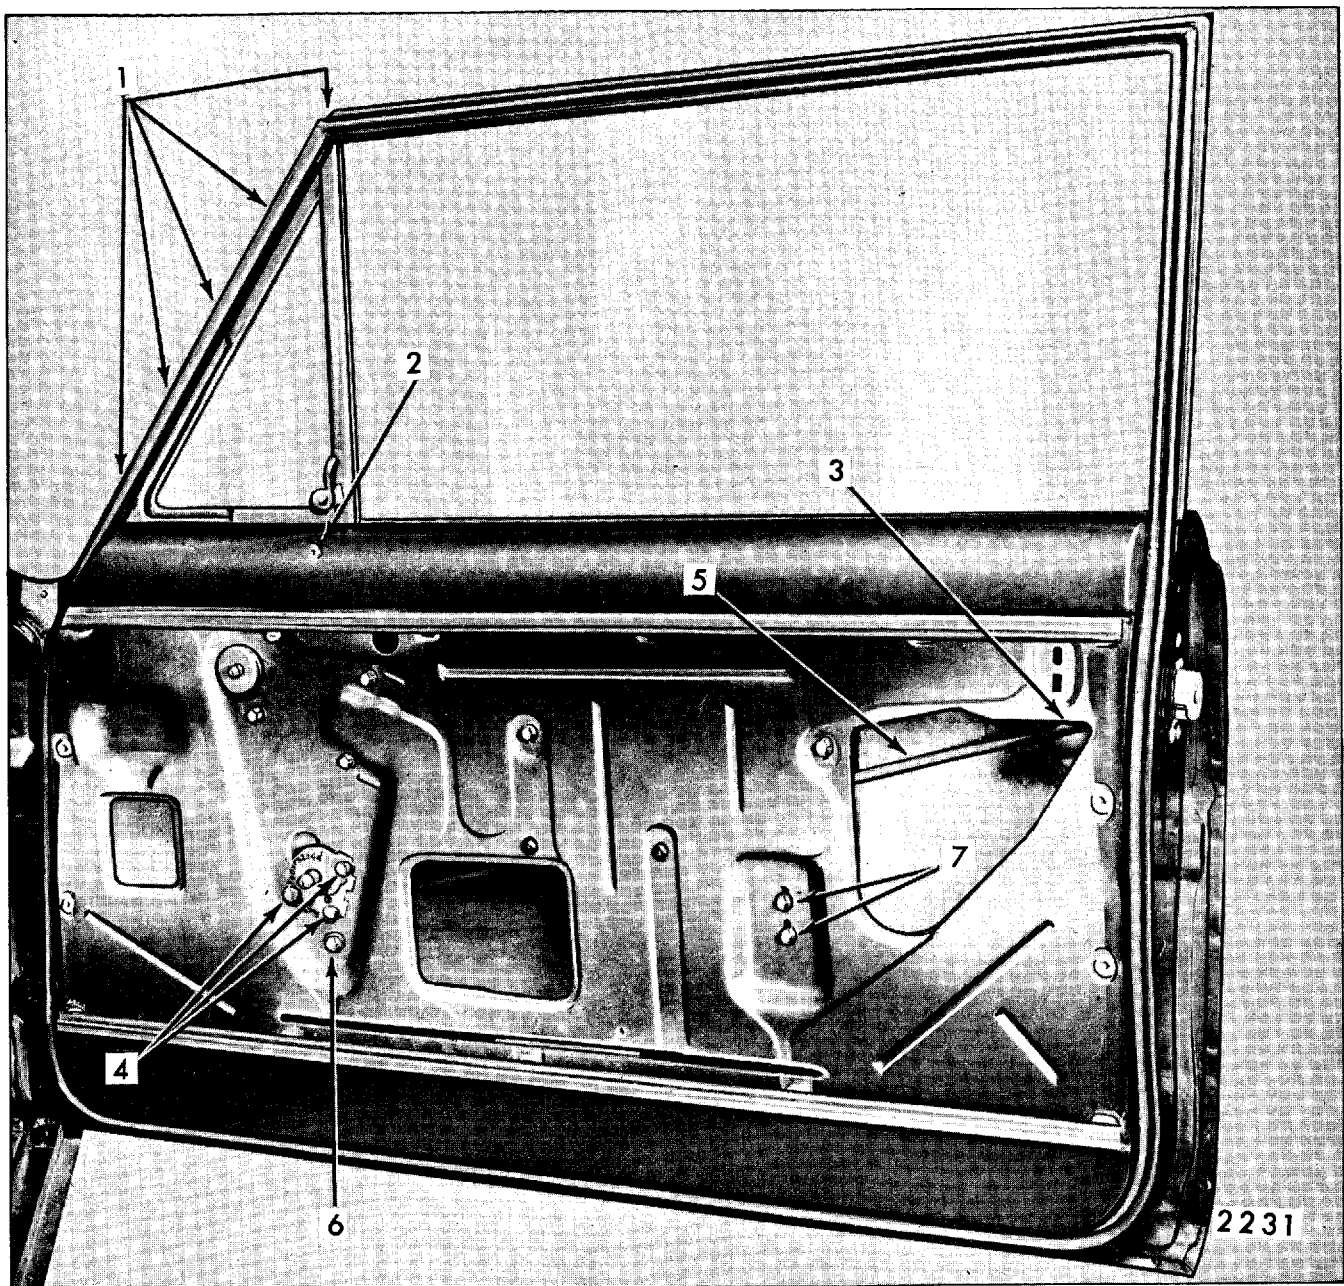
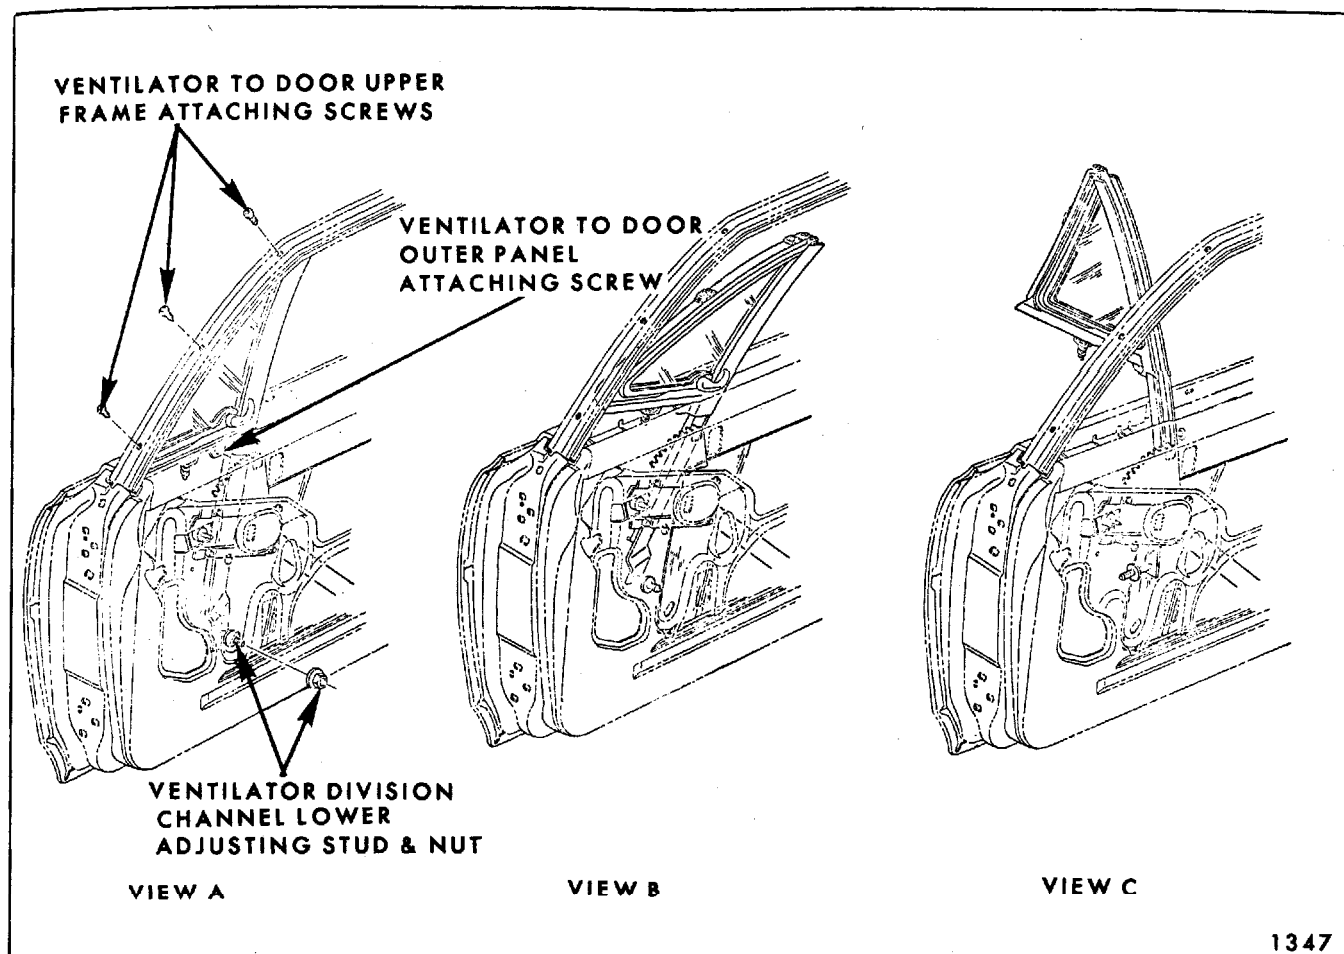

Fig. 7-68—Front Door Hardware Attachment - "X" Styles
Fig. 7-69—Front Door Ventilator Removal
6. Remove ventilator to door upper frame attaching screws (see Fig. 7-68 for "X" Bodies and View "A" in Fig. 7-69 for "A" Bodies).
8. Lift ventilator rearward and upward until lower forward corner of assembly is free of door upper frame (see View "B" in Fig. 7-69).
9. On "A" Styles, rotate ventilator assembly in an outboard movement and remove unit outboard of door upper frame (see View "C" in Fig. 7-69).
adjusting stud and nut by loosening attaching nut and sliding nut in slot provided (see Fig. 7-69). The division channel can also be positioned in or out by loosening nut and turning stud in or out as required and tightening nut.